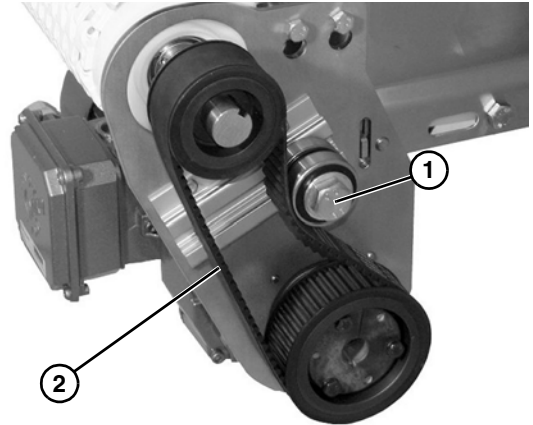

Figure 12
2. Loosen tensioner (Figure 12, item 1).
3. Tension timing belt to obtain 1/8" (3 mm) deflection for 6 lb (3 Kg) of force at timing belt mid-point (Figure 12, item 2). Tighten tensioner screw (Figure 12, item 1) to 110 in-lb (12 Nm).